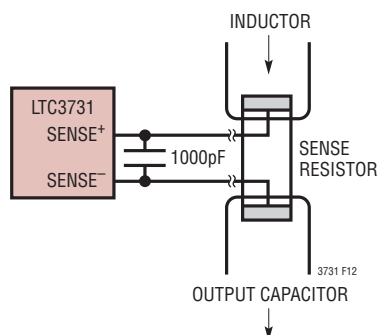

Figure 12. Kelvin Sensing R_{SENSE}
- 3) Are the $SENSE^-$ and $SENSE^+$ printed circuit traces for each channel routed together with minimum PC trace spacing? The filter capacitors between $SENSE^+$ and $SENSE^-$ for each channel should be as close as possible to the pins of the IC. Connect the $SENSE^-$ and $SENSE^+$ pins to the pads of the sense resistor as illustrated in Figure 12.